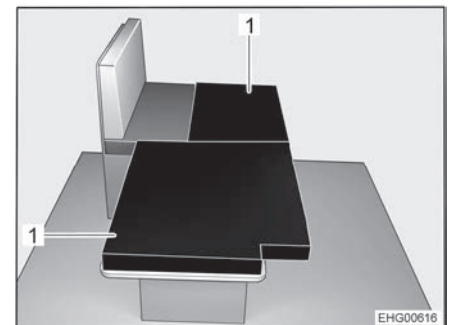

Fig. 55 After conversion
- Place the two additional cushions (Fig. 55,1) on the lowered table as shown in the image.